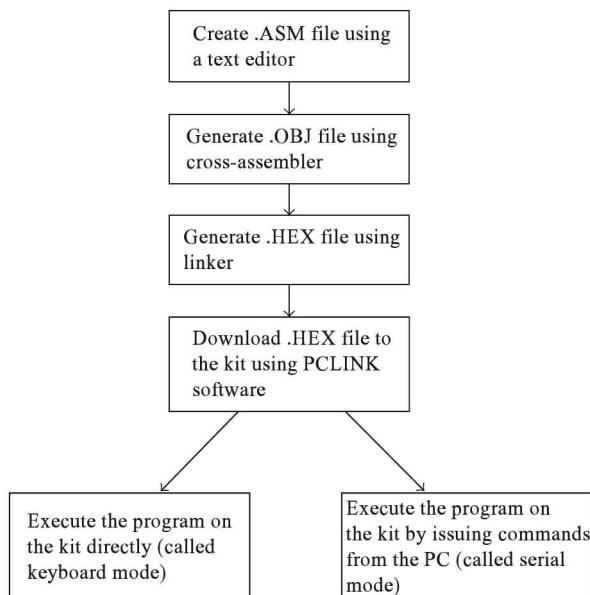

Fig. 15.1
- The program can now be executed on the kit using the keyboard mode of operation. Alternatively, serial monitor commands can be used to run the program. In such a case, the commands are issued using the PC, and the results are displayed on the CRT terminal of the PC. This method is more user-friendly, and the development of programs will be faster. Figure 15.1 illustrates the steps needed for running an assembly language program.